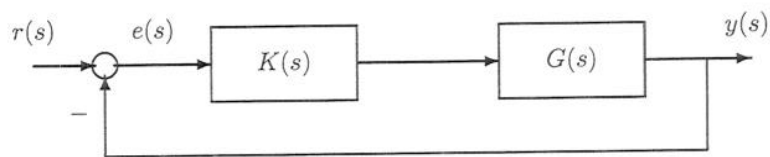

Figure 4
4. Consider the feedback control system in Figure 4 below. Here,
- (b) Take  $K(s) = 1$  in Figure 4.
- (c) (i) Explain what is meant by a Proportional-plus-Integral (PI) compensator. Your answer should include an expression for such a compensator, and a description of its frequency response. [5]